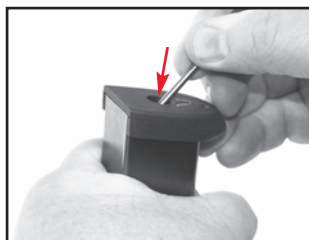

Figure 22
4. Using a rigid tool, push on the Magazine Floor Plate Retainer through the access hole in the Magazine Floor Plate while partially sliding the Magazine Floor Plate toward the front of the Magazine body. See Figures 22 and 23.